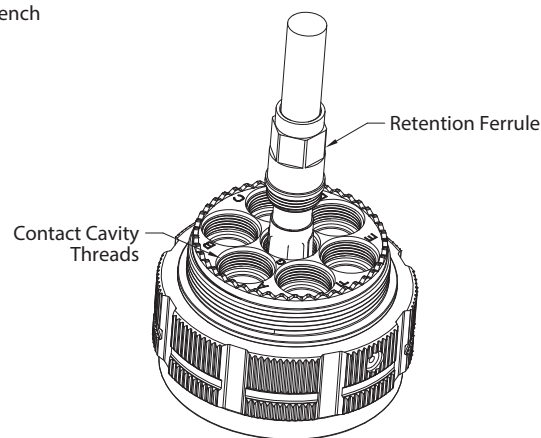

FIGURE 2
- B. Slide the retention ferrule far enough back on the cable that you're able to bottom out the SpeedMaster assembly without the threads engaging. (Figure 2)